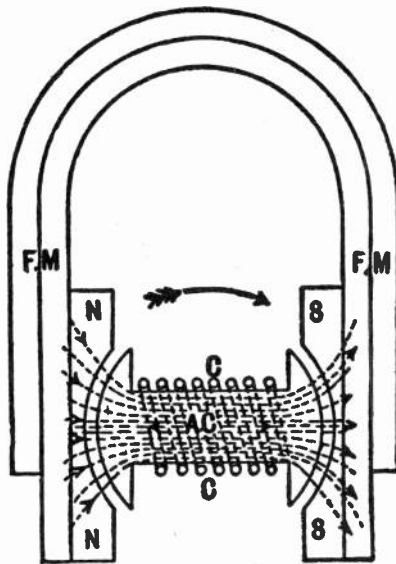

Fig. 4. This sketch shows the position of the armature between the pole pieces of a magneto and shows the path of the flux from the permanent magnetic field.
2. What is the advantage of the double breaker arm type of interrupter shown in Fig. 4?
Fig. 4 is a diagram showing the position of a magneto armature between the pole faces of the permanent magnets, and also shows the direction of magnetic flux travel through the armature from the north to the south pole.